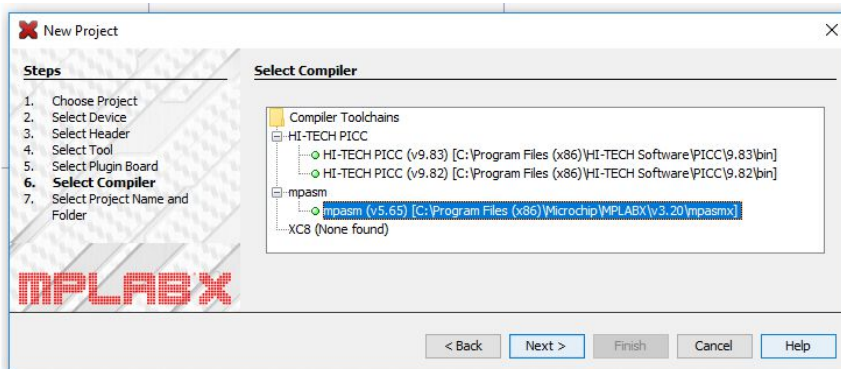

Figura 10
Step 6_ *Select Compiler* (figura 10)